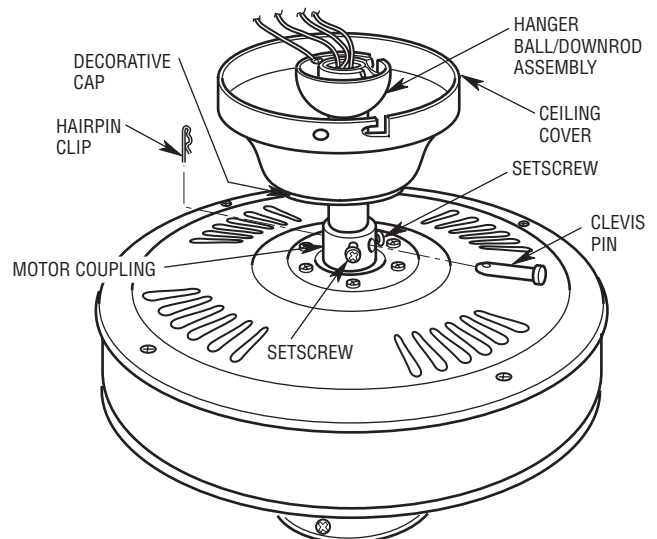
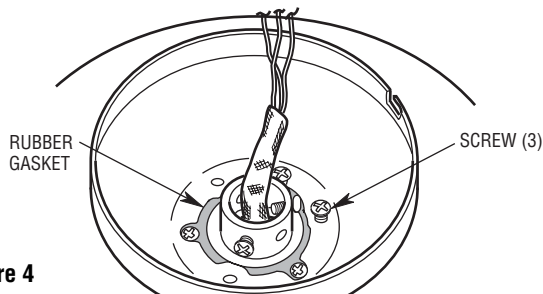

Figure 2
Figure 4
3. Loosen the two setscrews in the motor coupling. Align the clevis pin holes in the downrod with the holes in the motor coupling. Install the clevis pin and secure with the hairpin clip (Figure 2). The clevis pin must go through the holes in the motor coupling and the holes in the downrod. Be sure to push the straight leg of the hairpin clip through the hole near the end of the clevis pin until the curved portion of the hairpin clip snaps around the clevis pin. The hairpin clip must be properly installed to prevent the clevis pin from working loose. Pull on the hanger ball to make sure the clevis pin is properly installed.
4. While pulling up on the hanger ball, securely tighten the two setscrews in the motor coupling (Figure 2).
3. Gently pry the decorative cap (Figure 2) from the ceiling cover. Align the holes in the ceiling cover with the holes in the motor housing and secure using the three screws (Figure 4).